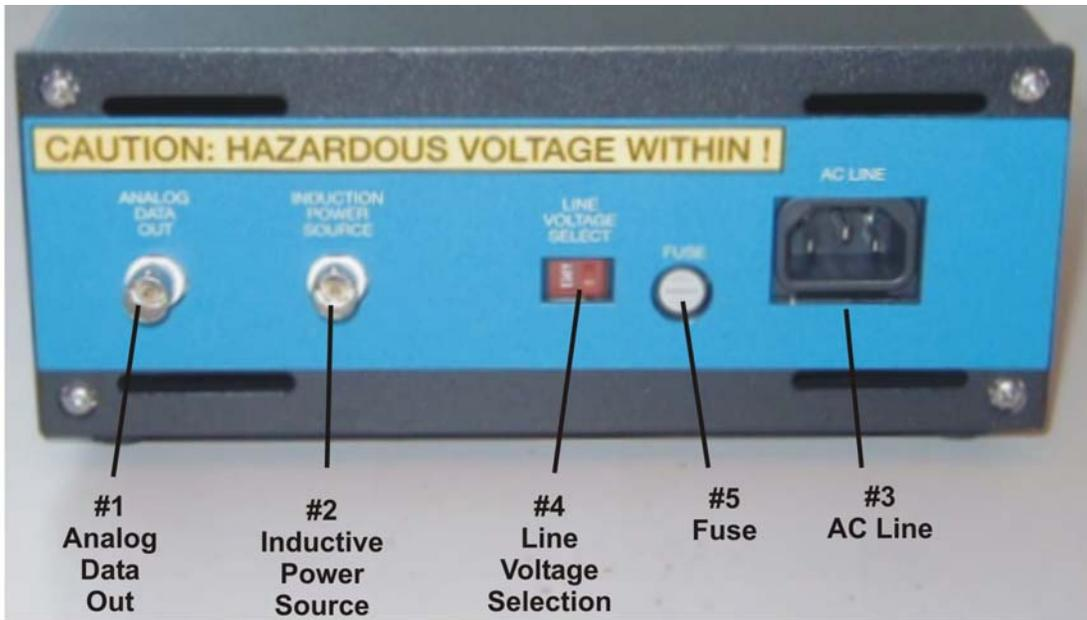

Figure 2-3. Model 2145 Data Telemetry Receiver Rear Panel – AC
signal to receiver path is completed. Power input and analog data output connectors and fuse locations are shown in Figure 2-3.
- a. ANALOG DATA OUT – Primary data output of the data telemetry system. The voltage output is capable of at least ± 10 Volts. Engineering transfer function of input signal to output voltage is set during system calibration by user. Figure 2-3 (1).
- b. INDUCTION POWER SOURCE – This power source is controlled by the IPS LEVEL adjust on the front panel. It is capable of a variable output voltage of 7.5 to 15 volts at a maximum current of 500 milliamps. The Induction Power Source is used to power the Model 2175A Induction Power Supply, which in turn supplies power to the transmitter and sensor. Figure 2-3 (2).
- c. AC POWER – Input power connections for the receiver and therefore the complete system. AC line for direct connection to power supply. Figure 2-3 (3).
- d. LINE VOLTAGE SELECT – Move the switch to the appropriate voltage. Figure 2-3 (4).
- e. FUSE – The standard fuse is of the 3AG TYPE 5 AMP – SLO BLO. Millimeter fuse adaptors have been included in the accessory kit. Figure 2-3 (5).